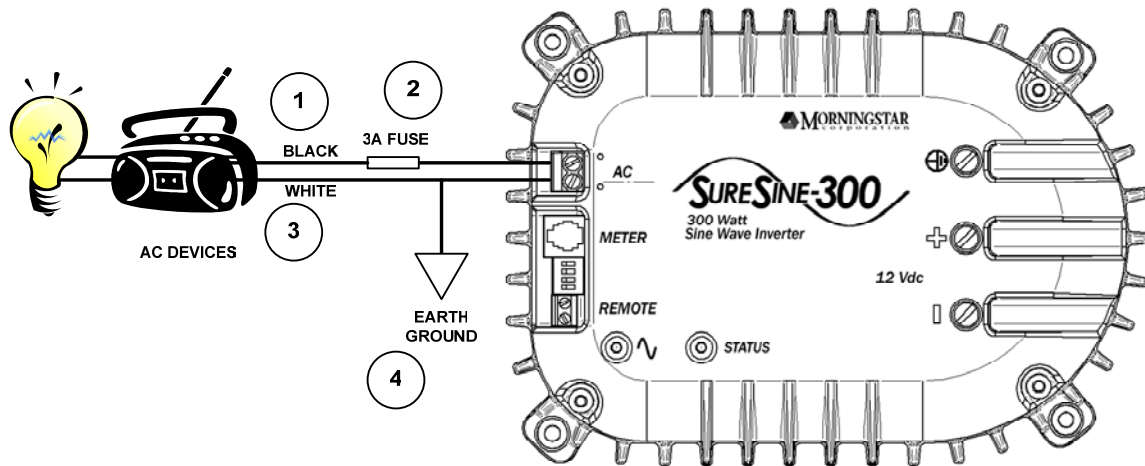

Figure 3 AC Wiring Diagram
AC power cables are not supplied. Use the appropriate wire color for each AC connection as shown in figure 3.
1. Wire a UL Listed 12AWG (4 mm²) black AC Line wire to AC loads or distribution panel as shown in figure 3.
2. Insert a 3A in-line fuse in the AC Line wire as shown in figure 3.